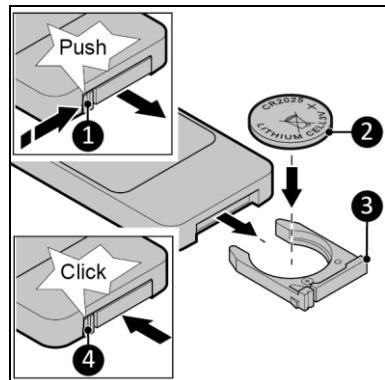

Figure 10
1. Press the tab (Figure 10, pos. 1) and remove the battery compartment (Figure 10, pos. 3) from the remote.
2. Correctly insert a CR2025 type battery as indicated (Figure 10, pos. 2).
3. Slide the battery compartment back until the tab clicks into place (Figure 10, pos. 4).